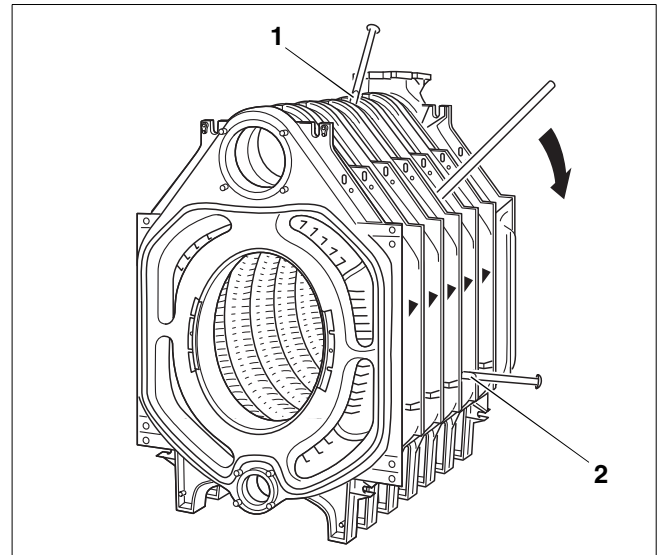

Fig. 24 Splitting boiler block
- Split the boiler at the point where the leak is situated, by driving (hammering) shallow wedges or cold chisels in at the points provided for this purpose (Fig. 24, **ref. 1 and 2**, at top and bottom between the sections).